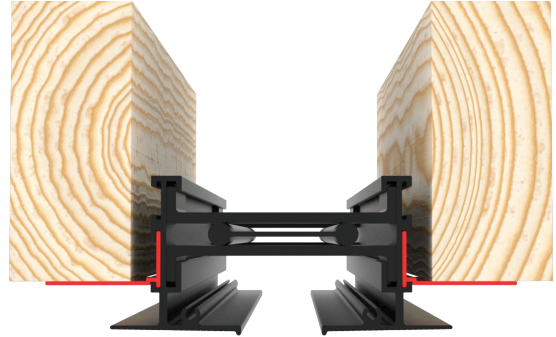

Figure 6 (Step 3C): XG-AFL Installed in Framing
- C. Then attach the F Clip and XG-AFL Linear Diffuser to the underside of the framing with screws or nails by others (see Figure 6).